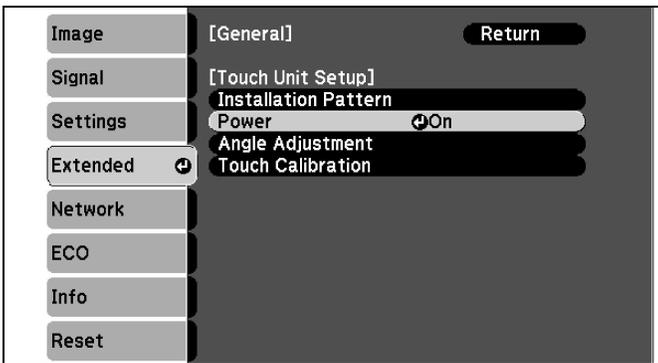

Figure 33
3. Select **Power** and set to **On**. (See Figure 33)